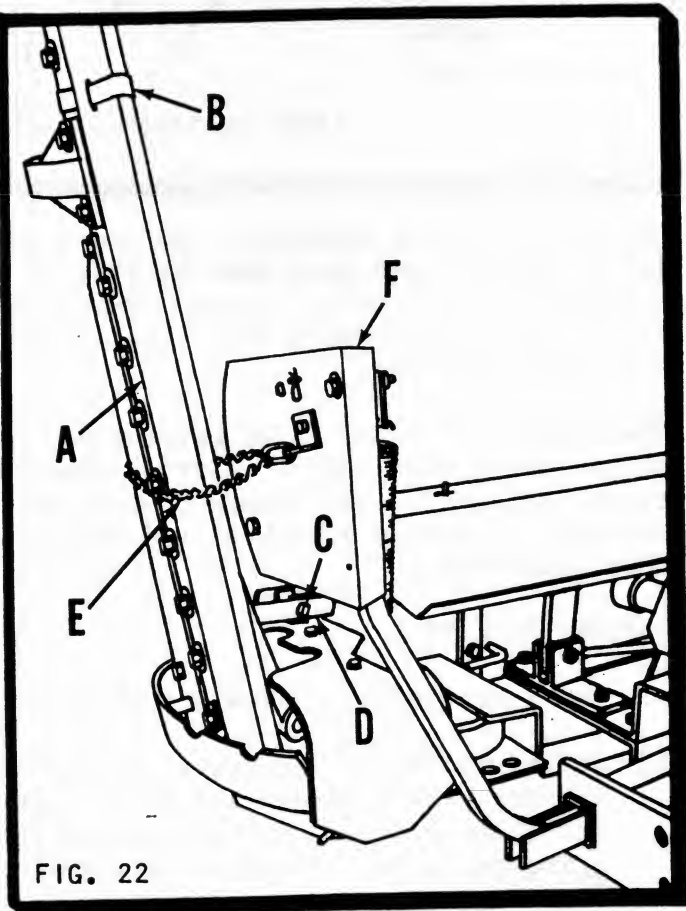

FIG. 22
LOWERING SICKLE BAR MOWER FROM TRANSPORT POSITION TO MOWING POSITION (See Fig. 22)
Stop tractor engine, place tractor attachment clutch lever in "Out" position, and set parking brake. Install sickle knife cover (A) using retaining strap (B) to secure cover to bar. (Fig. 22)
The sickle knife cover (A) is provided to protect the operator and others from serious injury. It should be in place whenever the sickle bar is not in use or is being transported from one area to another. (Fig. 22)